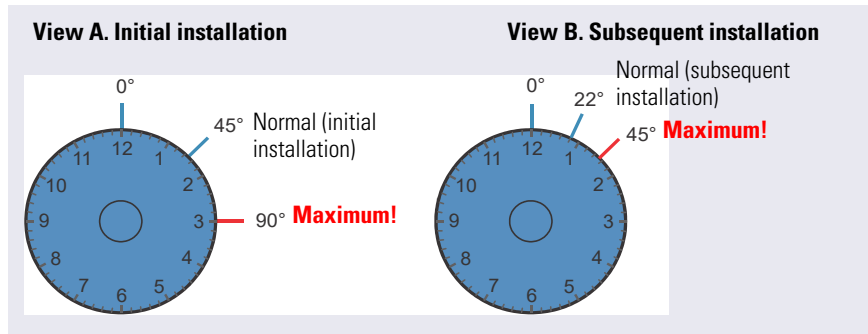

Figure 10-2. IC PEEK Viper Fitting Installation
- For the initial installation of the fitting: Use your fingers to tighten the bolt one-eighth of a turn from the “0” mark (45° or between 1 and 2 on a clock face) (see Figure 10-2, View A).
- For subsequent installations: Use your fingers to tighten the bolt one-sixteenth of a turn from the “0” mark (22° or 4 minutes past 12 on a clock face) (see Figure 10-2, View B).